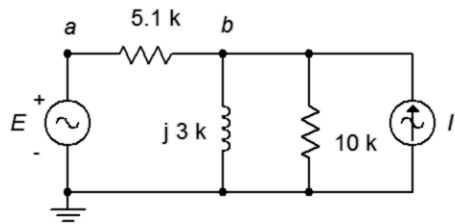

Figure 5.13
25. Use Superposition to determine v_b in the circuit of Figure 5.13. $I = 3\text{E}-3\angle 0^\circ$ and $E = 9\angle 0^\circ$.
26. Use Superposition to determine the inductor current in the circuit of Figure 5.13. $I = 4\text{E}-3\angle 0^\circ$ and $E = 18\angle -45^\circ$.